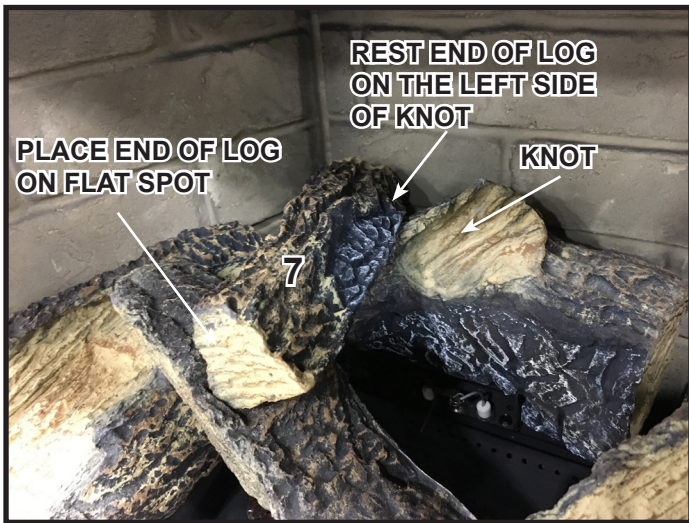
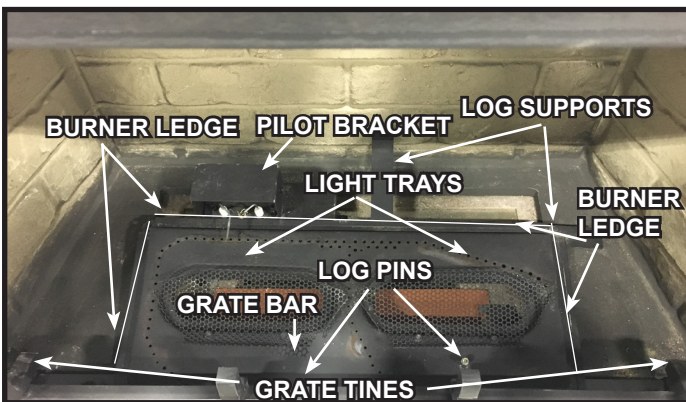
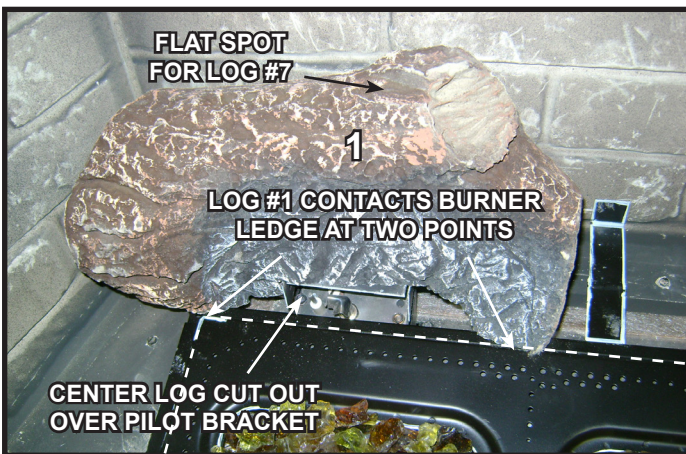
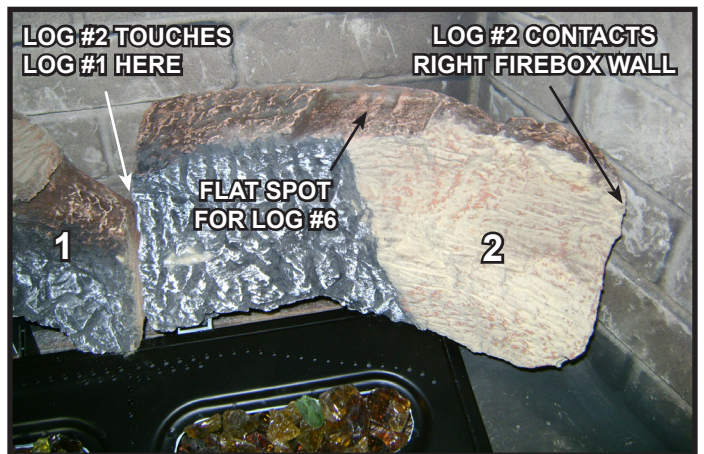

Figure 13. Place Log #7
Figure 2. Reference Points for Log Placement
Figure 4. Place Log #1
Figure 5. Place Log #2
**Log #7 (SRV2221-707):** Position Log #7 as shown in Figure 13. See Figure 2 and 11 for additional reference points. Place the front end of Log #7 on the flat spot indicated in Figure 11. Place the back end of Log #7 on the left side of the knot. See Figure 13.
**Log #1 (SRV2223-703):** Position Log #1 as shown in Figure 4. See Figure 2 for additional points of reference. Center the log over the pilot bracket. The log should rest on the burner ledge as shown in Figure 4.
**Log #2 (SRV2223-701):** Position Log #2 as shown in Figure 5. See Figure 2 for additional points of reference. Place the left end of the log on the rear log support. Slide the log back until it rest against the back of the log support. The left end of the log should touch Log #1. Swing the right end of the log counterclockwise until it contacts the right refractory wall.
**Log #3 (SRV2223-702):** Position Log #3 as shown in Figure 7. See Figure 2 and Figure 6 for additional references. Mate the grate tine groove with the base of the left grate tine. Slide the log forward until it stops against the vertical portion of the left grate tine. Mate the burner top groove with the left edge of the burner top as shown in Figure 7.